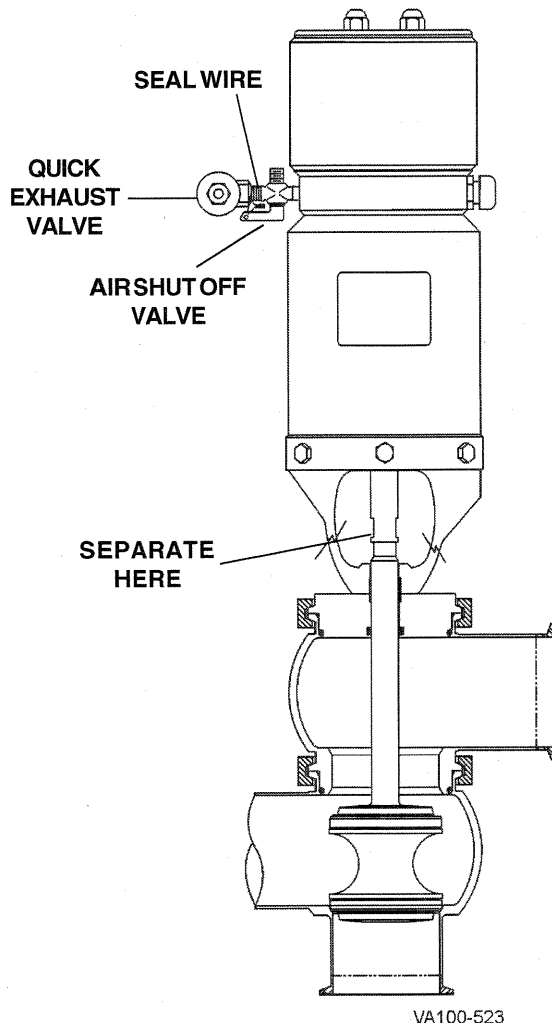

Figure 15 Inspection Test Procedures
These procedures are used to check the assembly and operating condition of the Flow Diversion Device. As positive test results are obtained, attach the required **seal wire** (Figure 15) in the locations specified by the procedure. Suggested corrective actions are presented at the end of each procedure in the event of test failure.
3. Divert Valve shifts to Forward Flow position (Figure 9, page 14). Break *seal wire* on Air Shut Off Valve handle (Figure 15). Turn handle 90 degrees to trap air in actuator. Actuator will remain in lowered position.
5. Set Mode Switch to OFF. Slowly open Air Shut Off Valve (Figure 15) until valve stem moves up approximately 1/2-inch, then close Air Shut Off Valve.
6. Use two 5/8-inch open wrenches to unscrew valve stem from lower actuator stem about 1/8-inch (Figure 15, SEPARATE HERE). Open Air Shut Off Valve again. Stem will raise to Divert position.